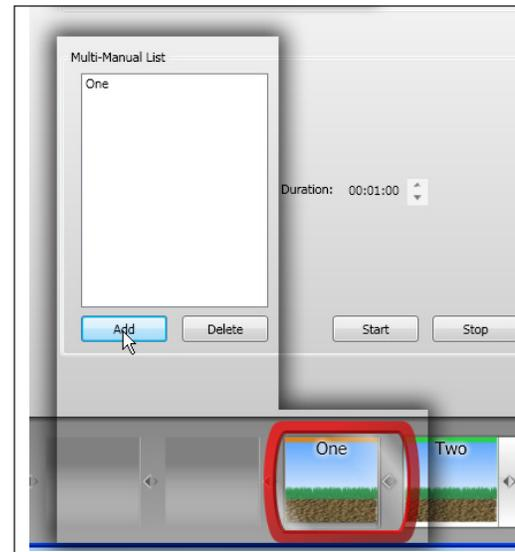

Figure 2.34
- Select the Zone Button followed by the Add button to format the manual watering program list. The zone order selected will be the order of operation during the watering program. Continue to add as many zones to the list as preferred (Figure 2.34).